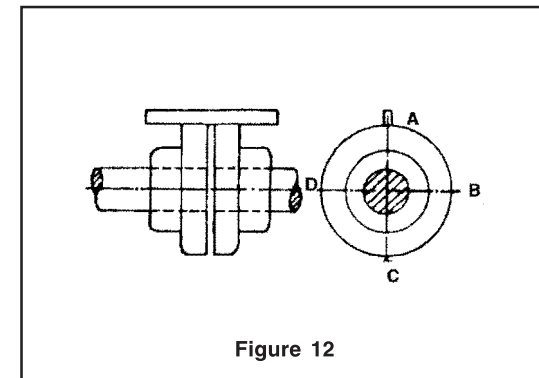

Figure 12
- 2.5.3. Eccentricity error can be corrected by using straight edge, as shown in figure 12 when both coupling halves the same outside diameters.